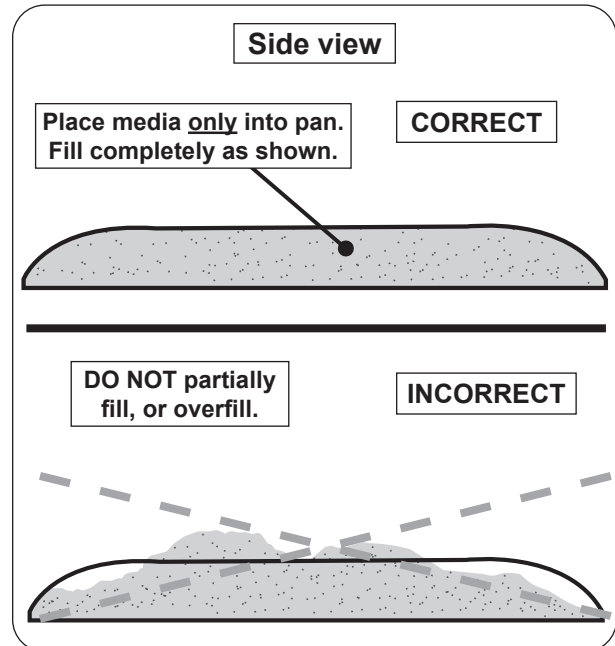

Fig. 12-2 Correct/Incorrect media placement
2. **Slope the sand/vermiculite at the same angle as the burner pan.** This is important to ensure quiet lighting and even flame distribution. See Fig. 12-2.